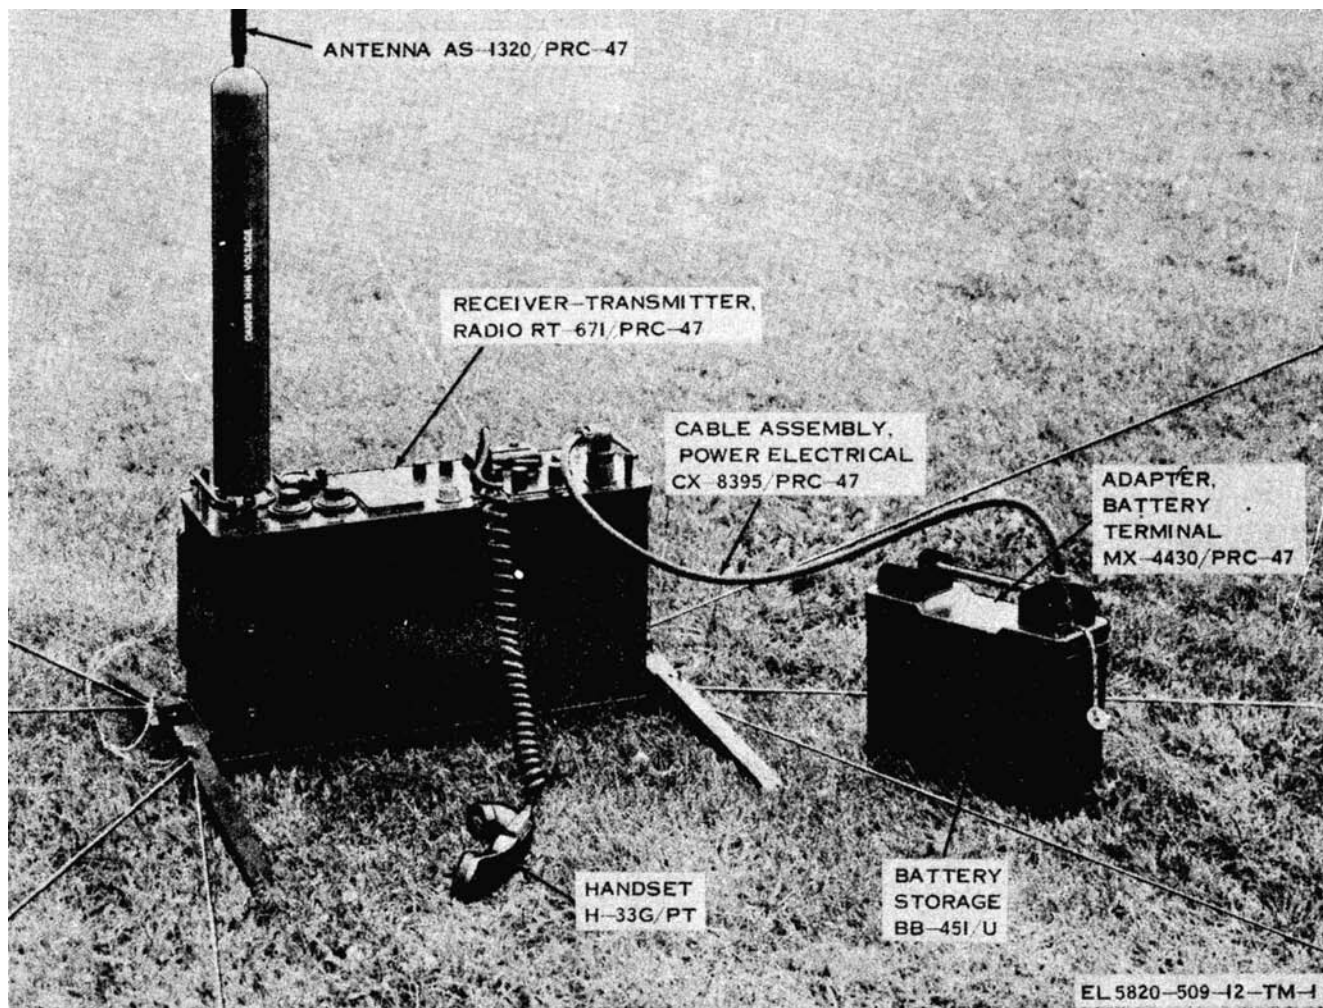
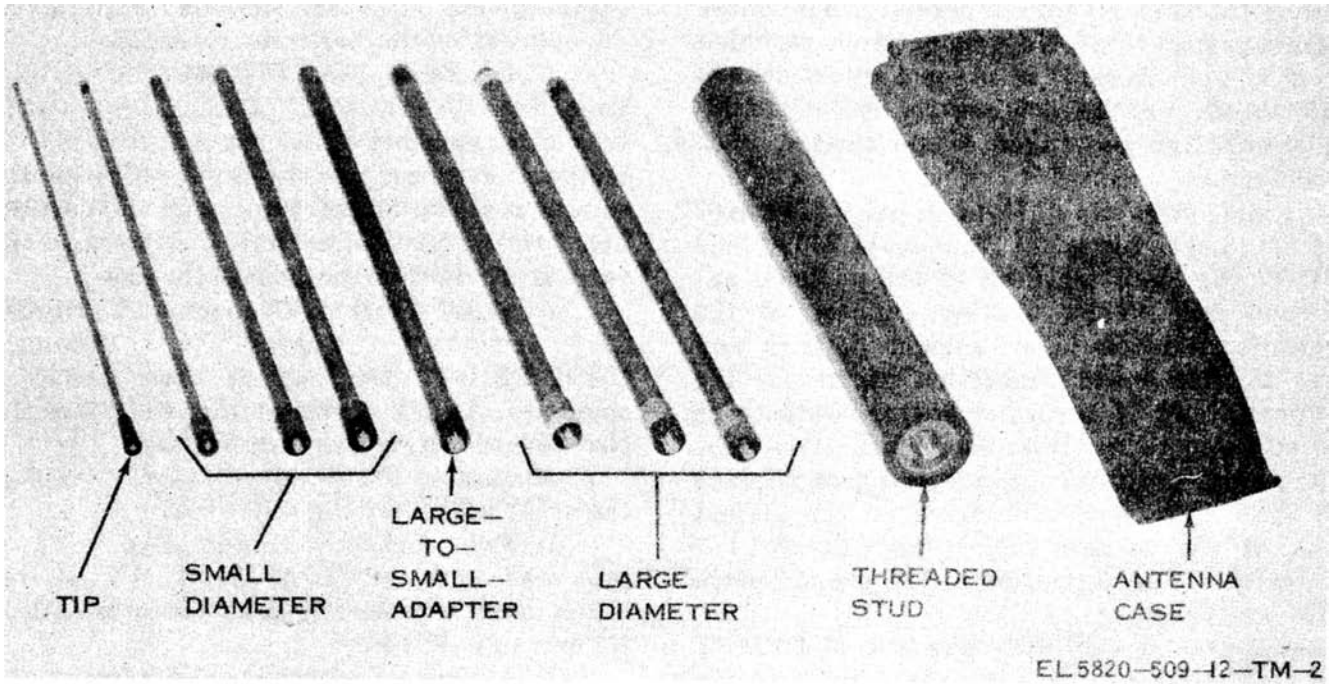

Figure 1-1. Radio Set AN/PRC-47
Figure 1-2. Antenna AS-1320 PRC-47
This manual describes Radio Set AN /PRC-47 (fig. 1-1) and includes instructions for installation, operation, organizational maintenance, shipment and limited storage, and demolition to prevent enemy use. The manual provides instructions for operation under usual and unusual conditions, and includes procedures for the cleaning, inspection, and maintenance of the AN/PRC-47 by the operator and organizational maintenance personnel. The repair parts list is contained in Appendix B and the maintenance allocation in Appendix C.
a. Purpose. Radio Set AN/PRC-47 (fig. 1-1) is a high frequency radio communications system. The radio set primarily provides 10,000 channels of upper sideband (usb) voice transmission and reception, continuous wave (cw) telegraphy, or frequency shift keying (fsk) teletype in the 2,000- 11,999-mHz frequency range. The radio set can be operated from its own control panel or controlled by a remote power control panel, such as Control Group AN/GRA-6, for at least a 2-mile distance.
Radio Set AN/PRC-47 (fig. 1-1) consists of several major units and a number of accessories that are required for operation. These major units are a receiver-transmitter, a silver-zinc battery, a power cable for battery (portable) operation that connects to a battery terminal adapter, a handset, and a whip antenna (fig. 1-2). In addition, an ac cable and a dc cable are provided for fixed station and vehicular operation respectively (fig. 1-3). The radio set is divided into two parts for portage; each part being attached to a separate rucksack frame for ease of handling (fig. 1-4). One frame carries the battery retainer and battery, battery cable, whip antenna, and accessory items required for portable operation. When desired to store the equipment, or when necessary to ship' the equipment, a radio set case (fig. 1-5) is provided. The case is waterproof and compartmentalized to protect the individual radio set units and accessories, and is equipped with carrying handles that permit easy handling. The radio set units and accessories are described below.
d. Antenna AS-1320/PRC-47. Antenna AS-1320/PRC-47 (fig. 1-2) is a 15-foot whip antenna that is used in conjunction with the ground-plane radials attached to Legs, Electrical Equipment MT-2786/PRC-47. The antenna is sectionalized into eight 20-inch sections plus a 20 inch threaded stud and is stowed in a canvas carrying case attached to the accessories rucksack frame (fig. 1-4).
(b) Assemble the antenna before attaching it to the Receiver-transmitter Begin assembly from the large-diameter diameter threaded stud and work toward the tip section (fig. 1-2).